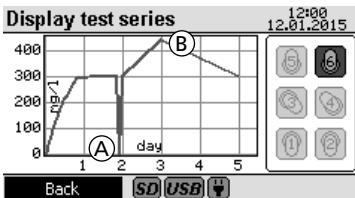

Figure 11
Underrange (A) is shown with zero and **Overerrange (B)** is shown with the maximum display value for the measuring range. If a measurement is unsuccessful, the measurement can be ignored, see Figure 11.